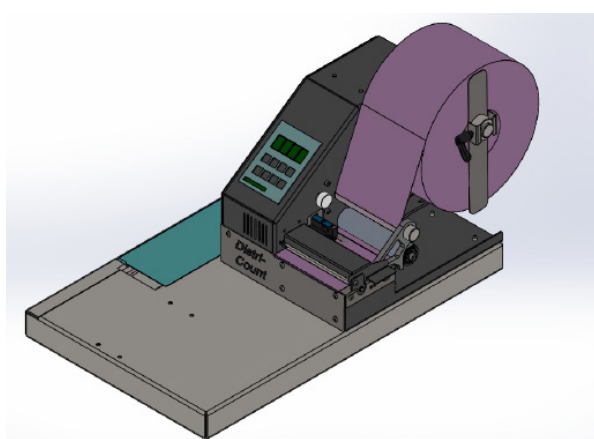

FIG. 5
- place the DISTRI-COUNT on the 4 PINS on the base-plate (FIG.5)